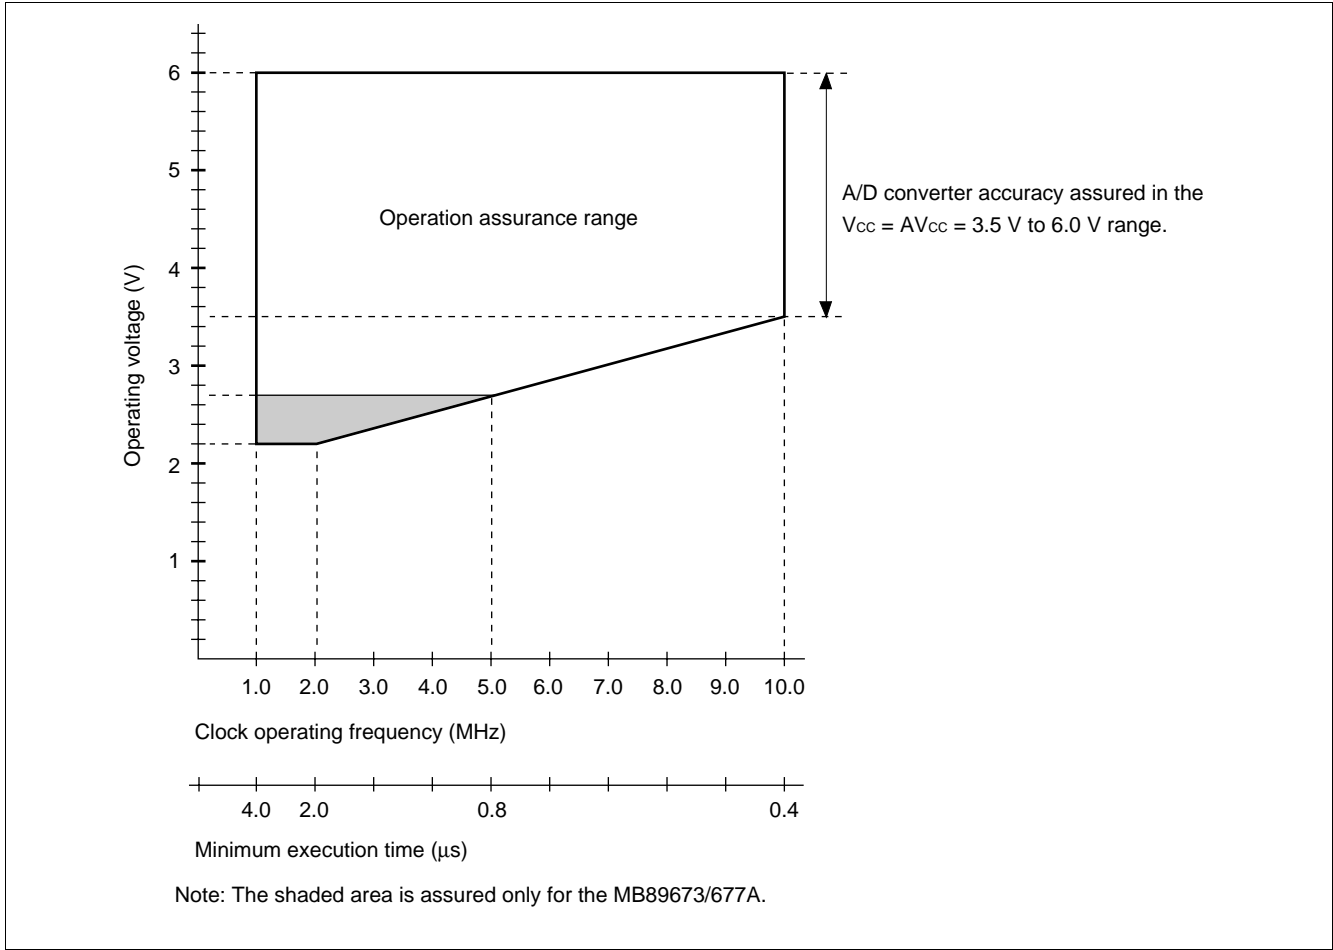

Figure 1 Operating Voltage vs. Clock Operating Frequency
* : These values vary with the operating frequency, and analog assurance range. See Figure 1 and "5. A/D Converter Electrical Characteristics."
Figure 1 indicates the operating frequency of the external oscillator at an minimum execution time of $4/F_C$.